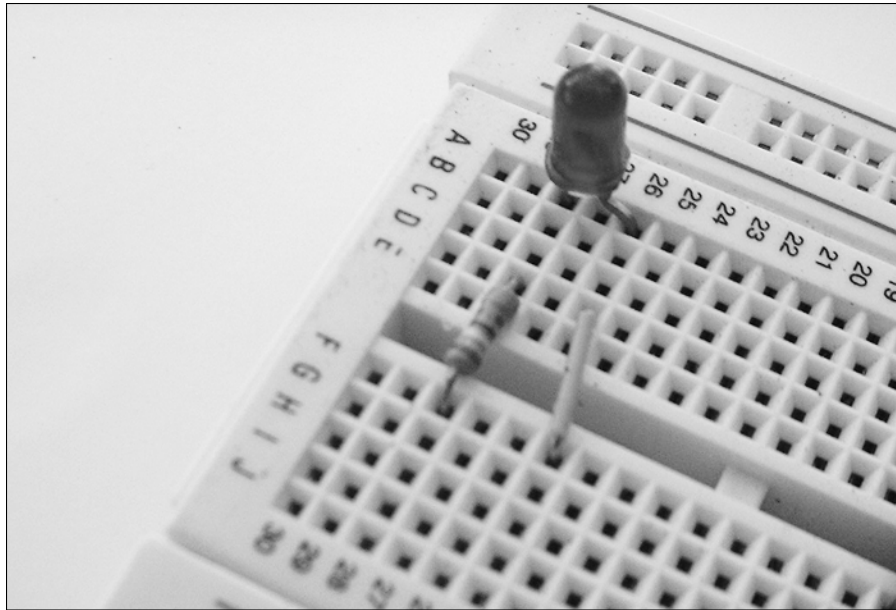

Figure 11-5:
- ✔ Don't be afraid to clip some extra length off the leads of components. Resistors, capacitors, and diodes don't cost much. Cutting off excess leads lets you lay components flat against the board, which helps them stay in place (see Figure 11-5). Save these parts for use on another circuit, or just toss them, if the leads are too short.